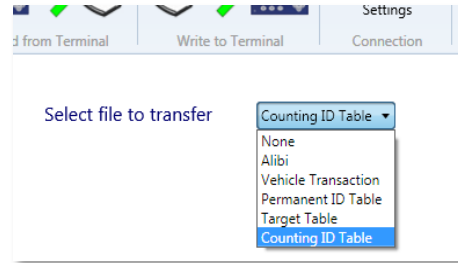

Figure 3-1: File selection dialog
1. On the Home tab of the IND246 File Transfer Tool, use the File selection dialog to select the file to be read from the terminal, as shown in Figure 3-1.